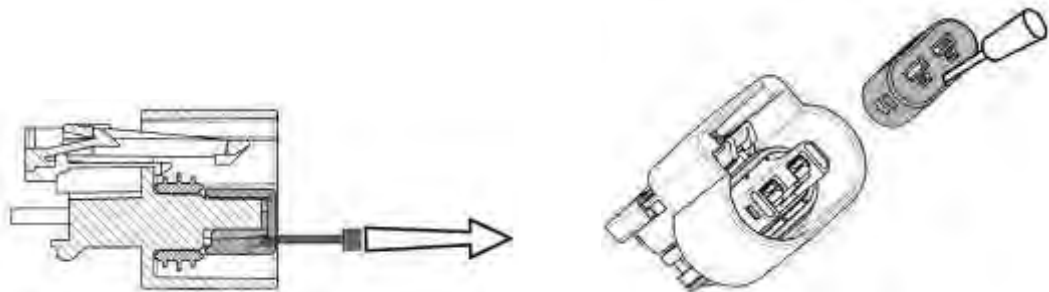

Figure 33
- a. Remove the Primary Lock Reinforcement (PLR) completely using removal tool 10803527 (or equivalent) as shown in Figure 33.